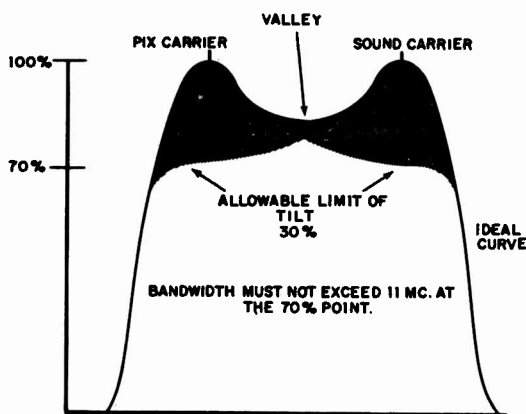

Figure 1-1. Tuner Response Curve Showing Bandpass Limits
5. Observe sweep response (Figure 1-1) and make the following touch-up adjustments: